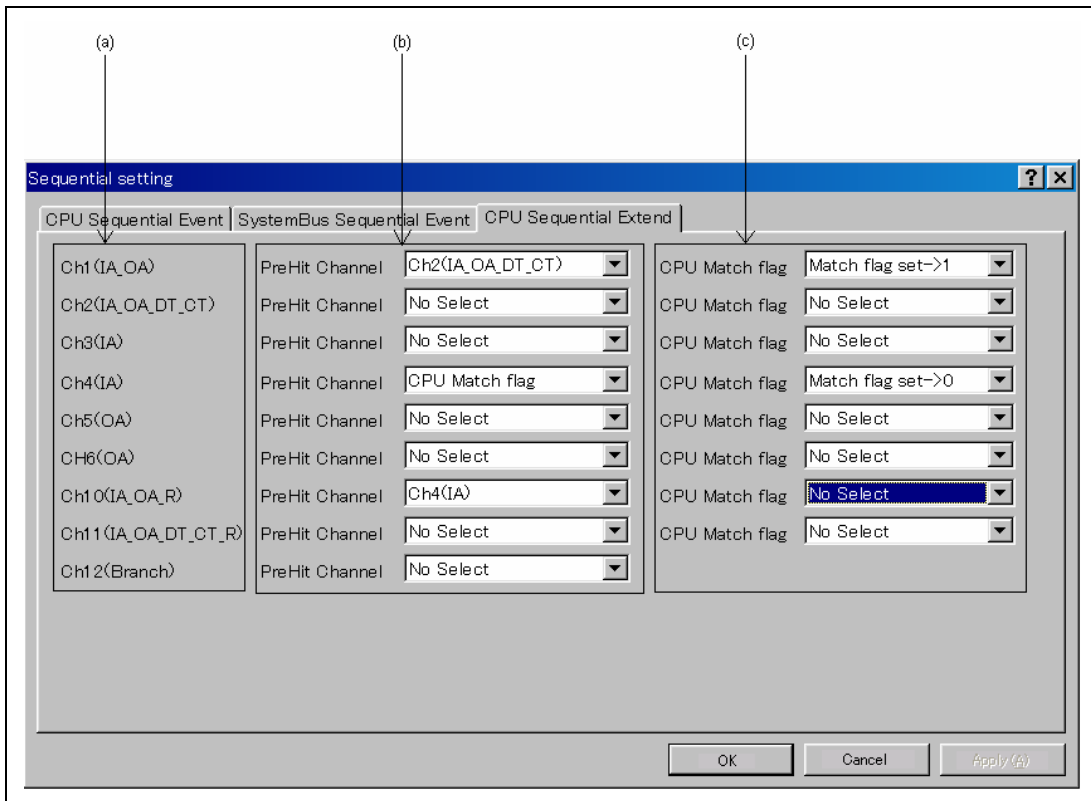

Figure 5.30 [CPU Sequential Extend] Page
5. Set the [CPU Sequential Extend] page as shown in figure 5.30.